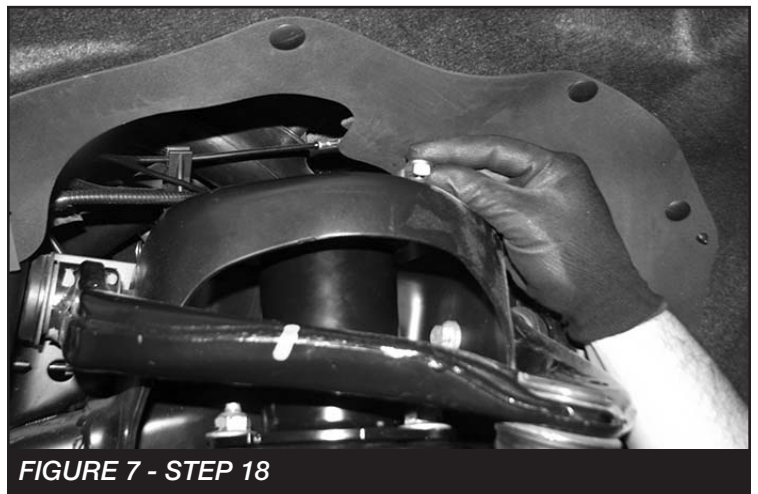

FIGURE 7 - STEP 18
18. Install the coil over into the frame bucket using the supplied 7/16" nuts & washers. Torque 59 ft-lbs. **SEE FIGURE 7**